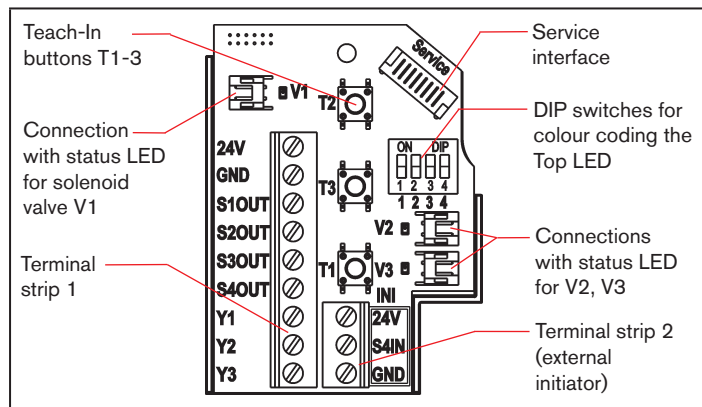

Fig. 4: Electronic module (24 V DC)
- Connect the wires to the terminal strips according to the pin assignments described in "Fig. 4".
An **external initiator** can be connected via the triple terminal strip 2 (see “Fig. 4” or see Operating Instructions, chapter “Connecting an external initiator”).